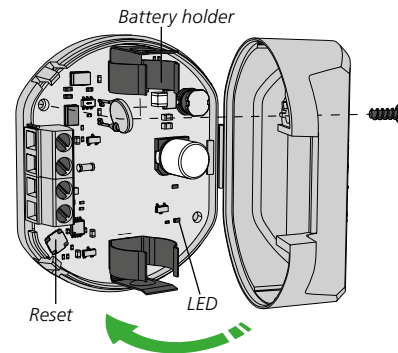

Figure 2. Locking of the case.
- Choose one of the connection options, battery or voltage supply, see figures 2 or 4.
- Fit the cover, lock with the supplied screws, see figure 2.
For power fed via battery, the service interval for battery replacement is calculated to approximately 5 years. This can vary depending on how often the product shall report measurement data/changes. See figure 2 for battery replacement. If you suspect that the product has some defect, please contact Swegon.